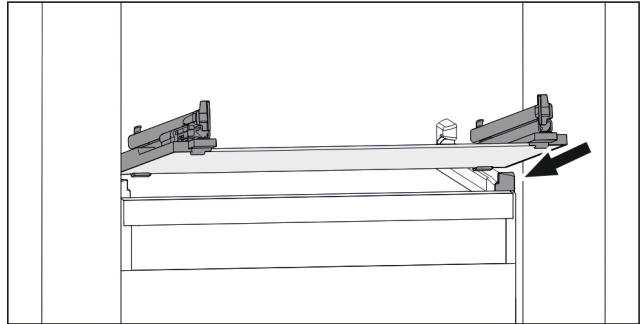

Fig. 69 Example illustration of glass shelf
- ▶ Position glass shelf at an angle behind the stoppers. (see Fig. 69)